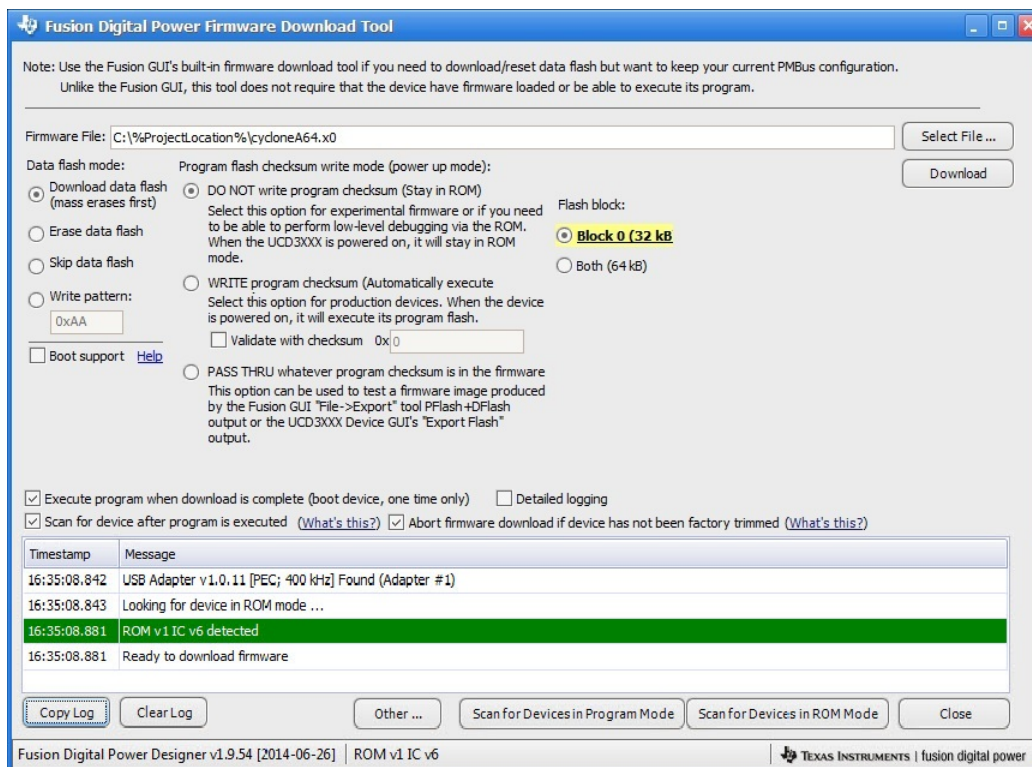

Figure 6. Firmware Code Downloading
4. Click **Firmware Download**; then a new window appears as shown in Figure 6. Click **Select File** and browse an intended firmware code file with file extension **.x0**, for example, **cycloneA64.x0**; then click **Download**. The firmware of **cycloneA64.x0** is downloaded to the UCD3138A64 device on the UCD3138A64CEVM-660 EVM. When prompted, click **Yes** to complete the download. Click **Close** to exit the download window.
Erase the downloaded firmware from UCD3138A64 flash memory with the following steps and referencing Figure 6.